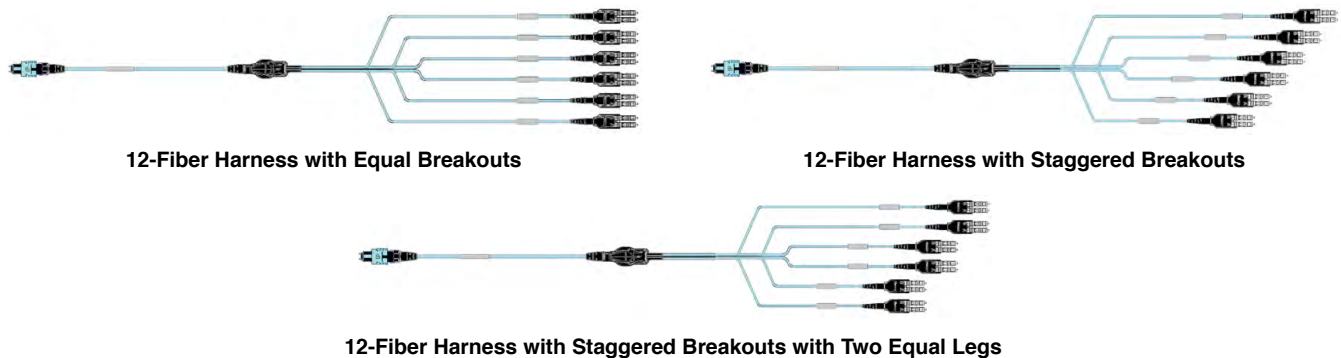

Figure 4: Harness Configurations
Switch port equipment harnesses are utilized in the switching area of the data center and to consolidate cabling. The LC to MPO harness connects six (6) or four (4) (depending on the switch layout), LC transceivers in the switch to a single MPO connector in an adapter panel installed in the switch cabinet to within 15m of the switch cabinet. This allows for consolidation of the switch ports into a single MPO connector. Panduit switch port equipment harnesses come in three different breakout arrangements shown below in Figure 4. Figure 5 illustrates the application.